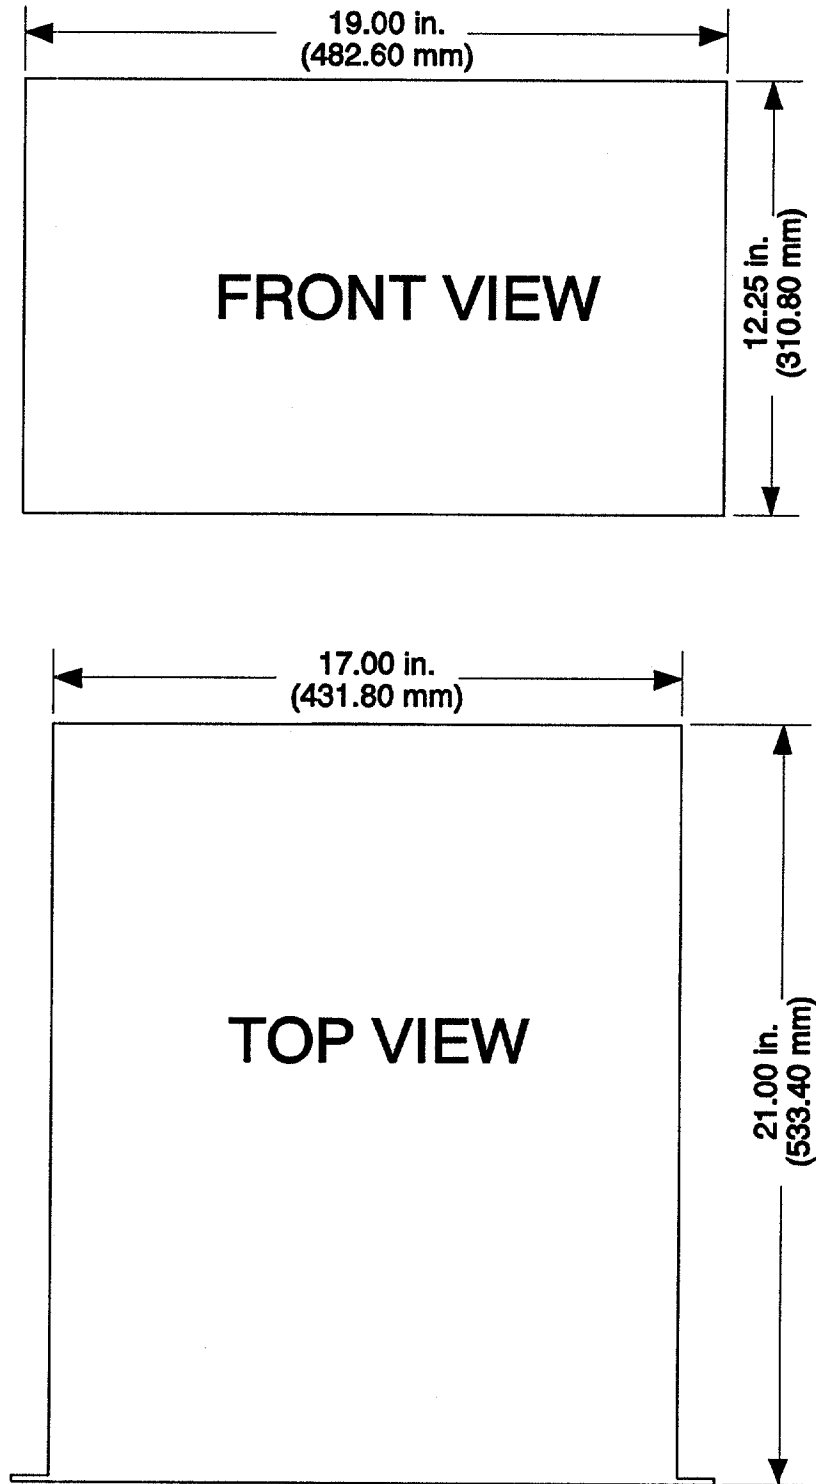

Figure 2-11. Model 1751SL Installation Dimensions
The Model 1751SL AC Power Source is designed for installation in a standard 19" (483 mm) instrument rack (refer to Figures 2-11 through 2-13 for outline drawings, mounting dimensions and the location of controls and connectors).
1. Before installing the power source, verify that the input and output voltage ranges are compatible with the available utility power and the output voltage application. Refer to Figures 2-11 and 2-12, Table 2-1, and the unit serial number tag for model number information.